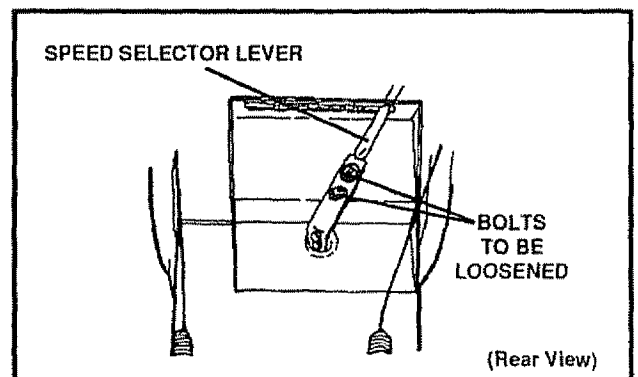

FIG. 31B
- Loosen bolts in speed selector lever (See Fig. 31B).